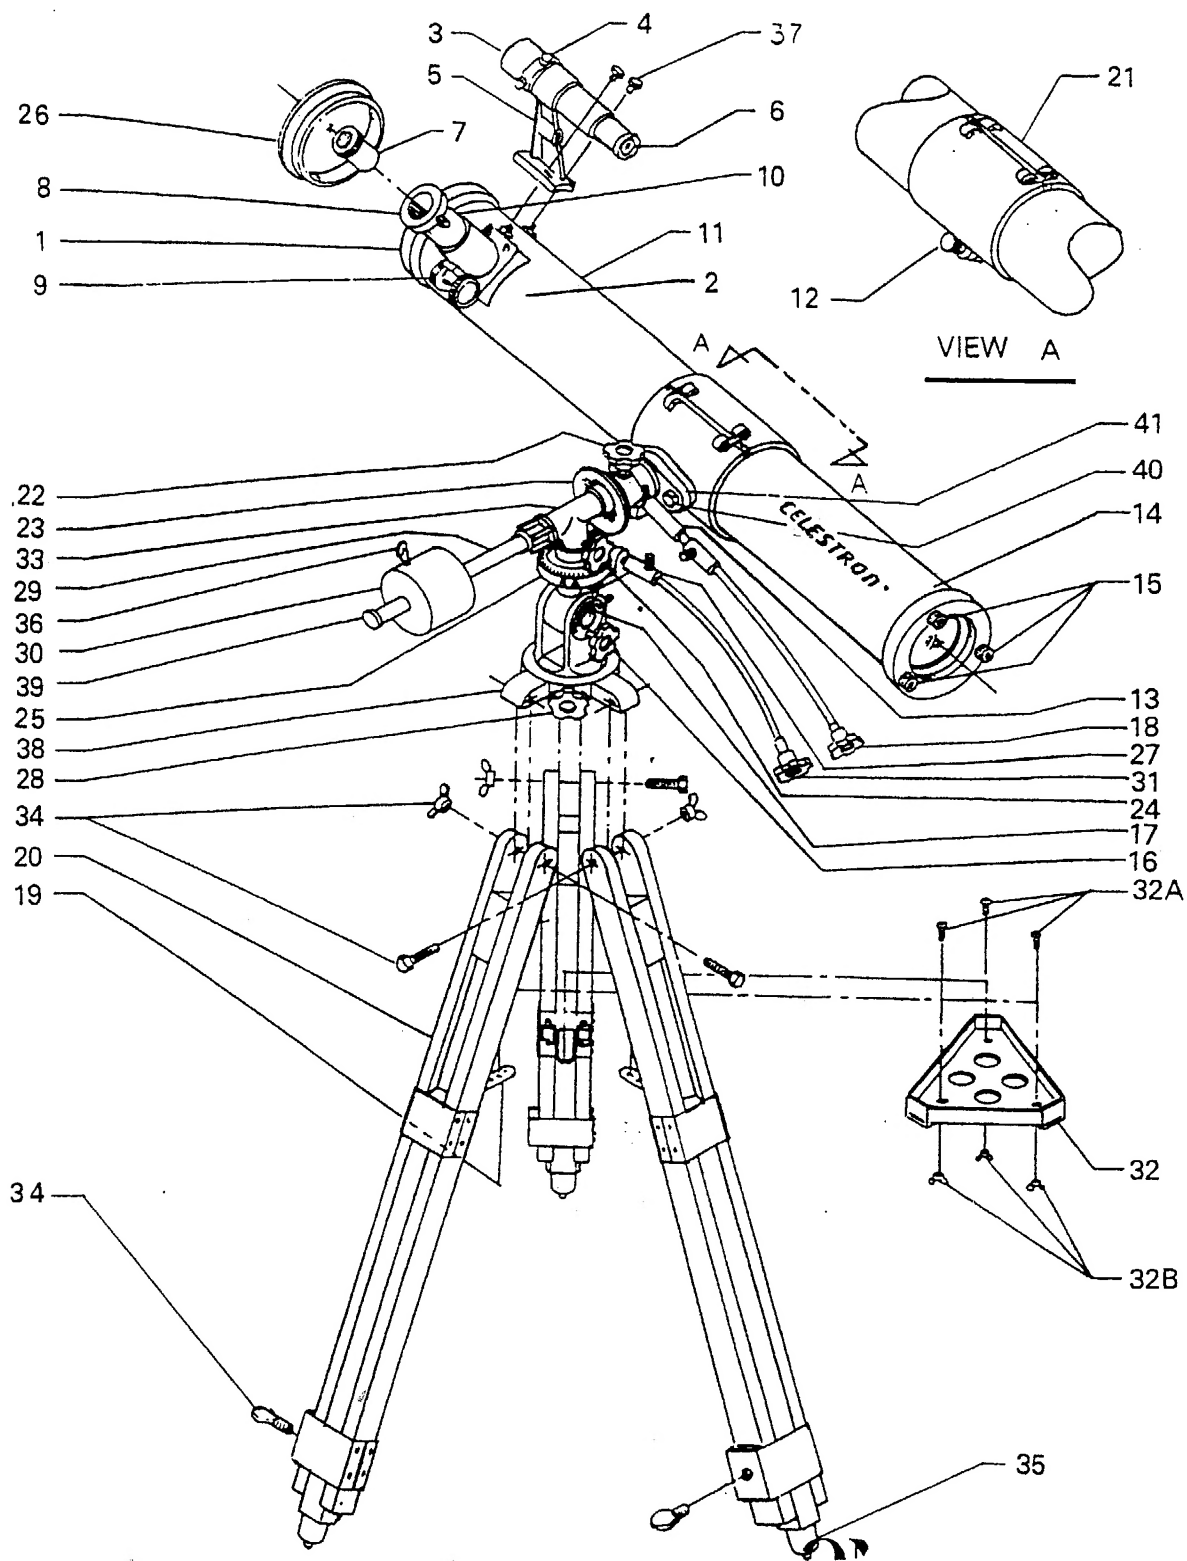

FIGURE 1 - 4.5 NEWTONIAN TELESCOPE
IDENTIFYING PARTS OF FIGURE 1
Please refer to figure 1 (and the identifying parts list) as you assemble the telescope.
B. Before proceeding further, locate knobs #16, #22, #24 and #28 and tighten all of them finger tight after orienting the mount as illustrated in figure 1.
4. Slide the counterweight shaft (#29) through the counterweight (#30). Use the counterweight lock (#36) to lock the counterweight in place. By holding the counterweight in one hand, thread the counterweight shaft clockwise into the equatorial mount (#33) as shown in figure 1.
1. Remove the two bolts (with the supplied wrench) and washers (#40) from the telescope tube mount bracket (#21). Put the bolts through the saddle bracket (#41), as shown in Figure 1, into the telescope tube mount bracket and tighten.
2. Loosen the tube mount bracket (#21) with the knob (#12) and open the bracket. Hold the tube in the orientation as noted in figure 1. Holding the optical tube in place with one hand, close the tube mount bracket and tighten the bracket knob to firmly hold the optical tube. NOTE: The optical tube may come already mounted in the bracket